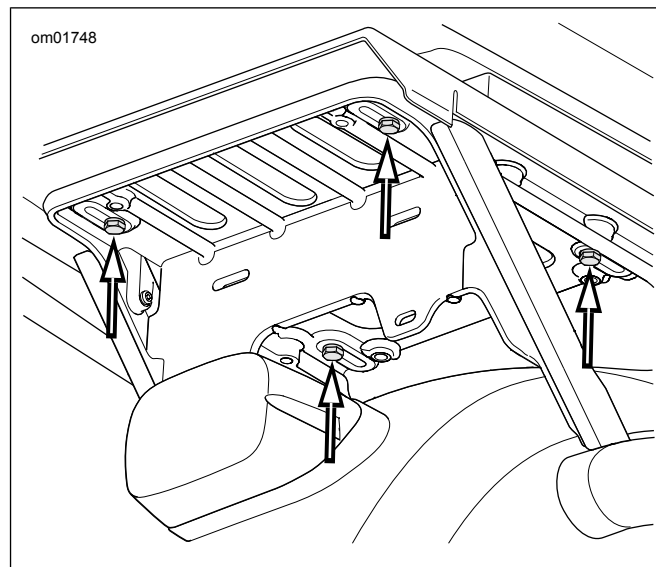

Figure 4. Tour-Pak Bracket Screws (APC/China Models)
- c. **APC models:** See Figure 4. Remove four screws, flat washers and adapter plate from support rack. Slide forward to release L-hooks.